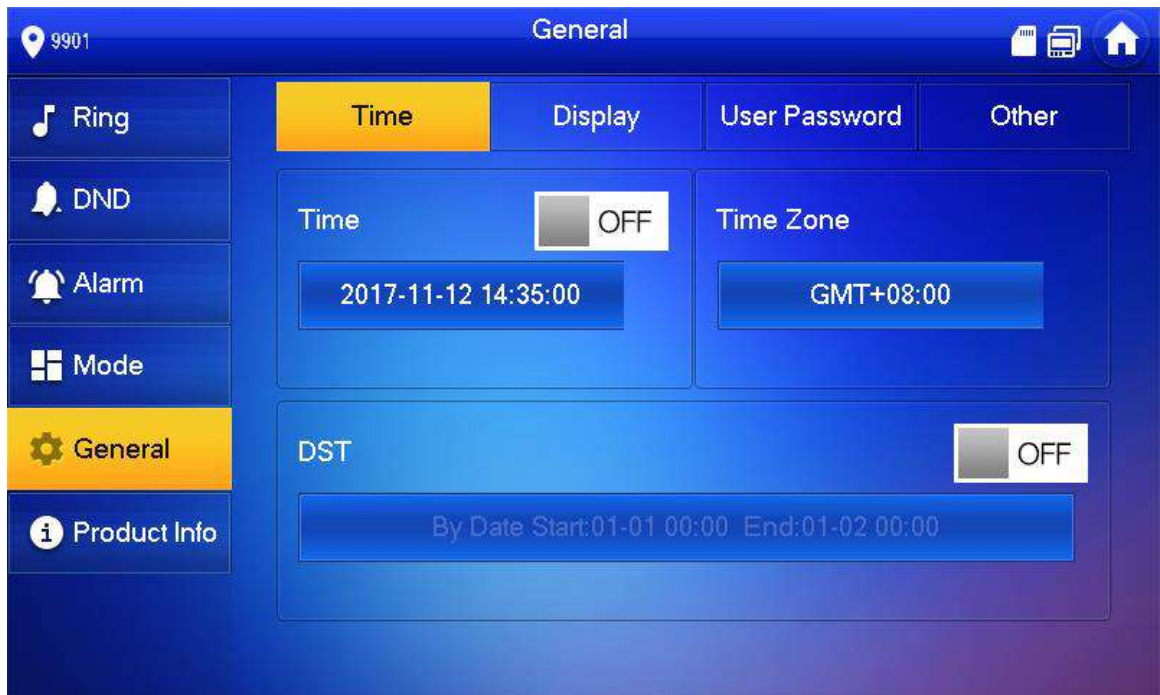

Figure 6-13
2. Press time zone text box, and select local time zone, as shown in Figure 6-13.